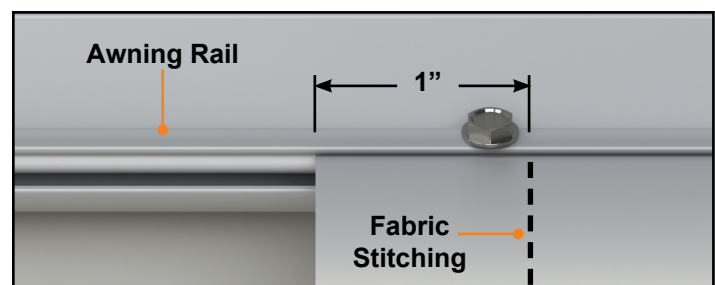

Fig.17
15. Secure the fabric in the awning rail 1" inside the edge of the fabric on both ends using a #6 x 1/2" hex. head screw. Install the screw down through the awning rail and into the fabric and polycord (**Fig.17**).